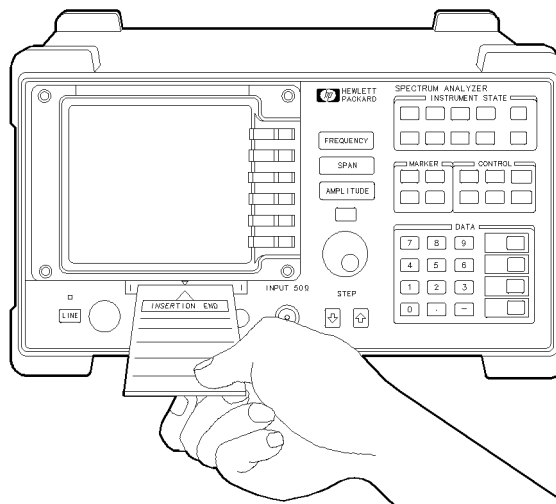

Figure 3-1. Inserting the memory card.
2. Insert the card with its arrow matching the raised arrow on the bezel around the card-insertion slot. Refer to Figure 3-1.